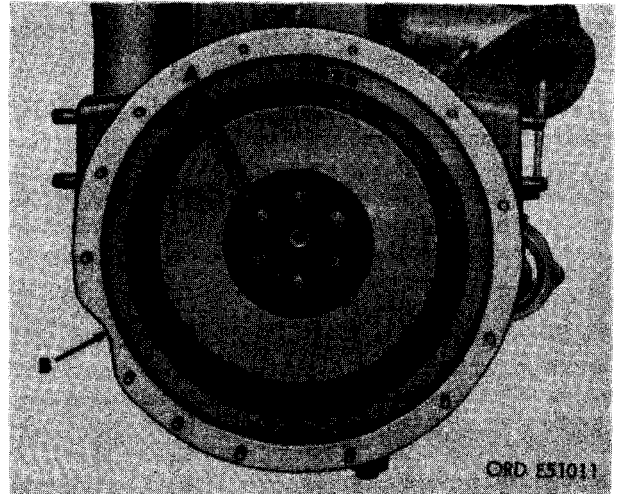

FIGURE 159. REMOVING OR INSTALLING FLYWHEEL.
- (3) Figure 159. (A) Remove six 1/2 x 1-1/8 cap screws securing flywheel to end of crankshaft. (B) Remove flywheel.
- (2) Refer to figure 159 and reverse the sequence of instructions to install the flywheel. Remove pilot after flywheel is properly positioned and all cap screw holes align. Tighten the six 1/2 x 1- 1/8 cap screws to a torque of 650 to 700 pound inches.
- (3) Refer to figures 159 and 160 and reverse the sequence of illustrations and instructions to install the flywheel. Remove pilot after flywheel is properly positioned with all cap screw holes in flywheel aligned with screw holes in crankshaft. Tighten the six 1/2 x 1- 1/8 place bolts to a torque of 650 to 700 pound inches.